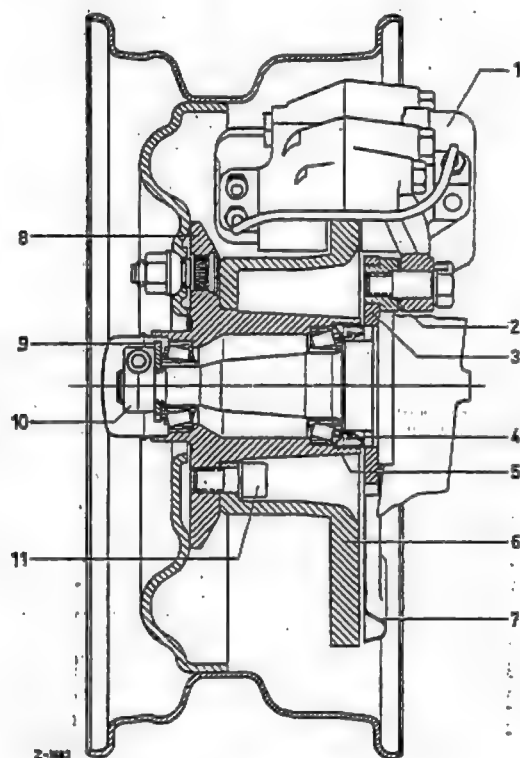

Fig. 42-11/1
3. Fix the front wheel hub in Fixture 136 589 05 31 and unscrew the hexagon socket screws (11) fixing the brake disk (6) to the front wheel hub (8) (Fig. 42-11/1).
4. Check the brake disk for scores and replace if scoring is excessive (Figs. 42-11/2 and 3).
Note: Since the brake disk is not protected against the influence of dust and dirt, scores are liable to occur after short runs of a car. Such concentric scores have no negative influence on braking action. The brake disk need only be replaced if the scoring is excessive i. e. if the scores have a depth of approx. 0.5 mm (Fig. 42-11/2).